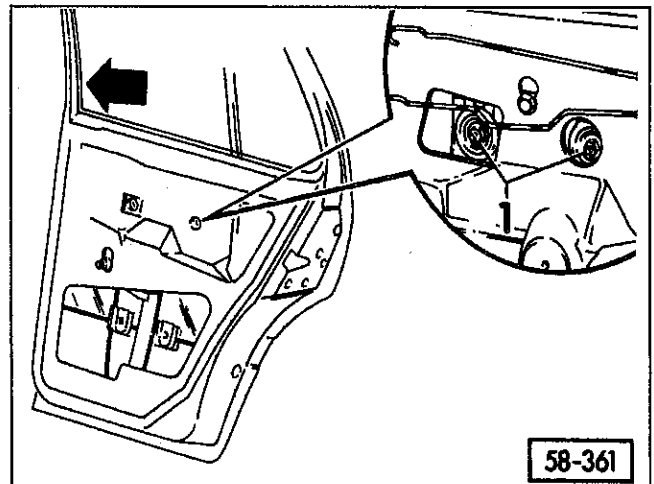

Fig. 1. Glass clamping jaw nuts (1). Door glass shown lowered into door.
2. Remove nuts from glass clamping jaws. Press jaws apart. See Fig. 1.